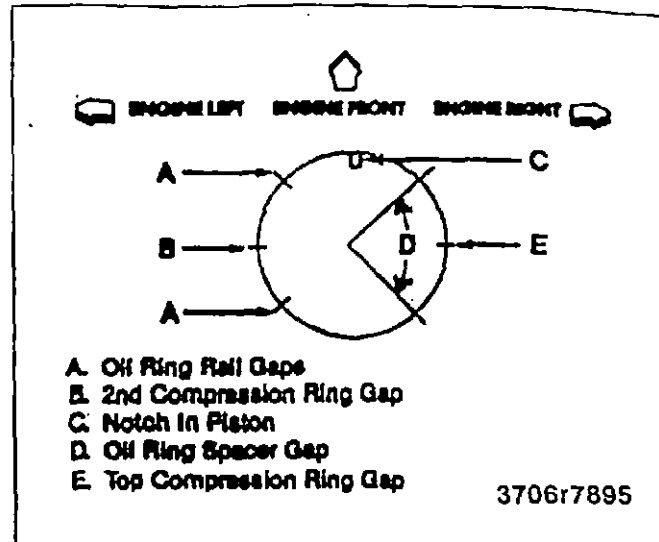
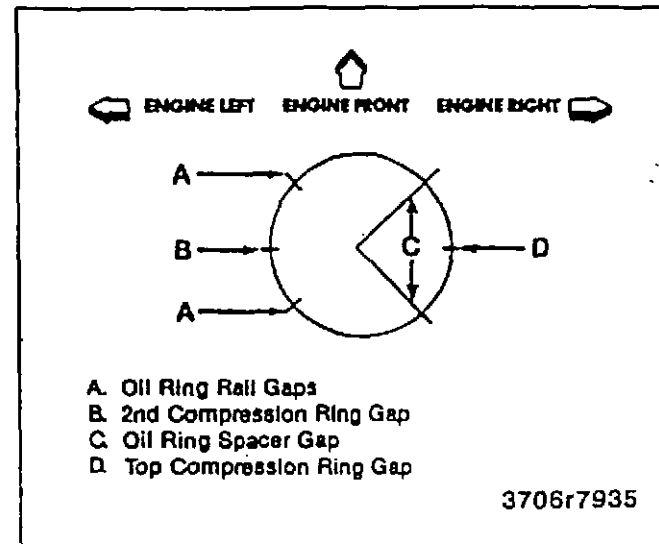

Figure 78—Piston Ring End Gap Location (5.0L and 5.7L Engines)
Figure 79—Piston Ring End Gap Location (7.4L Engines)
Install or Connect (Figures 78 through 81)
- Locate the piston ring end gaps as shown in figure 78 (5.0L and 5.7L engines) or figure 79 (7.4L engines).
- On 5.0L and 5.7L engines, the notch in the piston crown (figure 78) must face the front of the engine.